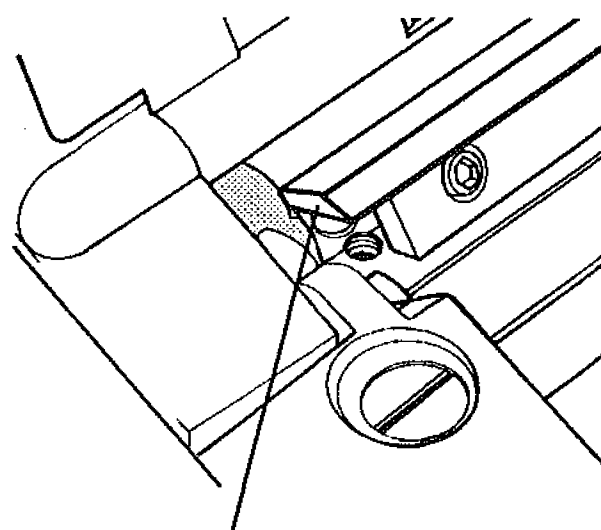

Fig. 63
3. Check the side-to-side knife positions - The ends of the knives should be flush with the sides of the cutterhead, as shown in Fig. 63. Place your fingertips on one side of the cutterhead and slowly rotate it one full revolution. Check, by feeling, that each knife is even with the side of the cutterhead.